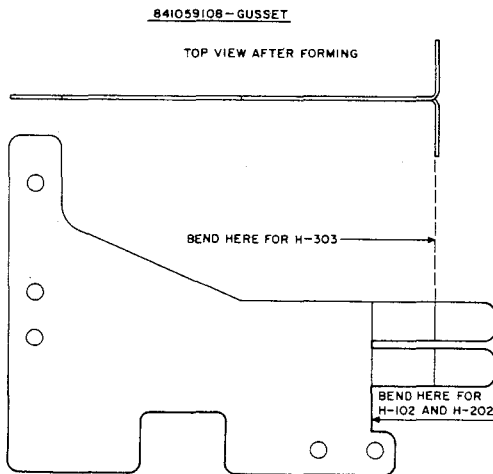

Fig. 13—Forming Gusset
3.06 The gussets must be formed as shown in Fig. 13 to provide the door stops for multiple installations where the distributing rings are removed.